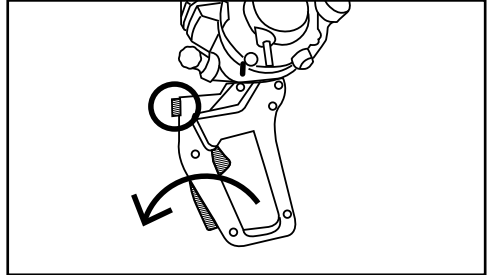

Fig. 12
- The Hedge Trimmer's rear handle can be set in three positions by pressing down the button on the handle (see Fig. 12, 13, 14).